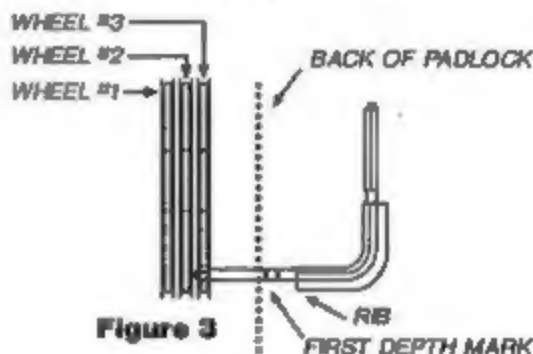

Figure 3
• Step 2 — When the change key opening in the wheel passes underneath the tip of the reset key, the key will move into the lock until the first depth mark is just barely outside the lock body (Figure 3).